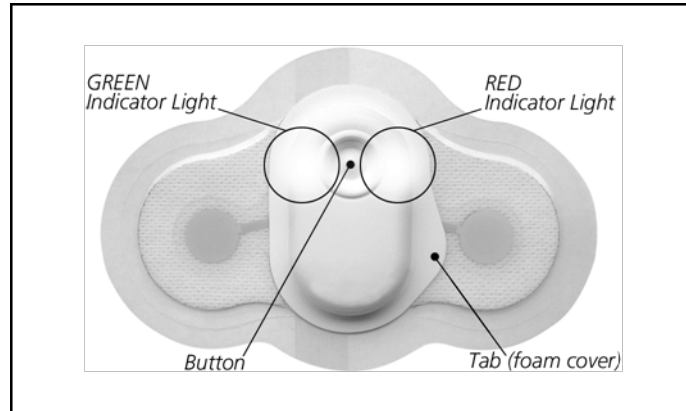

Figure 3.1. Key elements of the wearable Sensor
The Sensor is a small, lightweight, patch-style, single-use cardiac recorder, designed for ambulatory collection of electrocardiographic (ECG) data continuously for up to 7 days. Figure 3.1 illustrates the key elements of the Sensor.
- c. Pull upwards on the tab of the foam cover to remove it (see Figure 3.1).